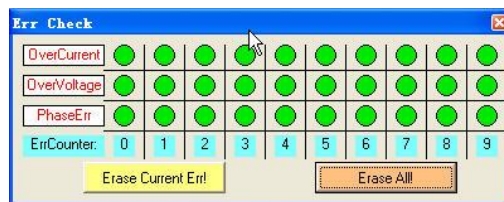

Figure 28: Error check window
- 1 **Error Check:** This window shows both the present status of each error event and their history. Current error event(s) can be reset by clicking **Erase Current Err!** button, and all error events can be reset by clicking **Erase All!** button. List of the last ten Drive faults. #0 being the most recent, #9 is the oldest. See Figure 28.